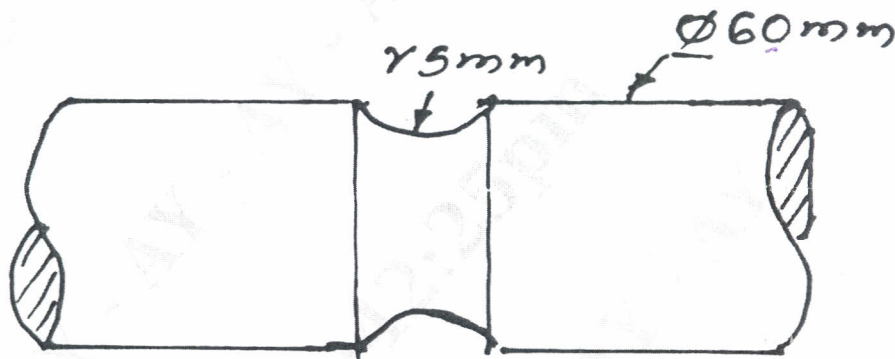

Fig. Q1 (b)
b. Determine the max stress induced in the semicircular grooved shaft as shown in Fig. Q1 (b), if it is subjected to,